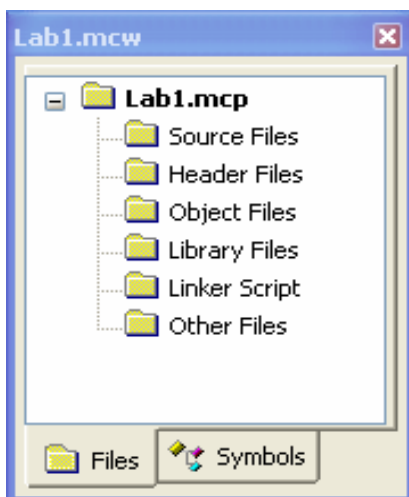

Figure 11: .mcw Window
Step 9: Verify that the .mcw window listed in Figure 11 exists on your project workspace. If not you will want to display it.